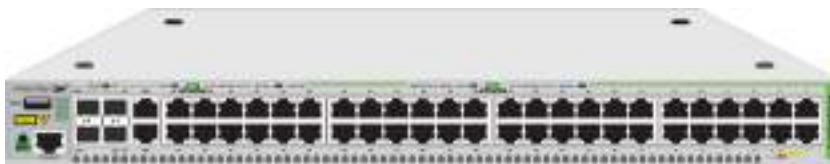

Figure 17. Turning the Switch Upside Down
1. Place the unit upside down on a level, secure surface. See Figure 17.